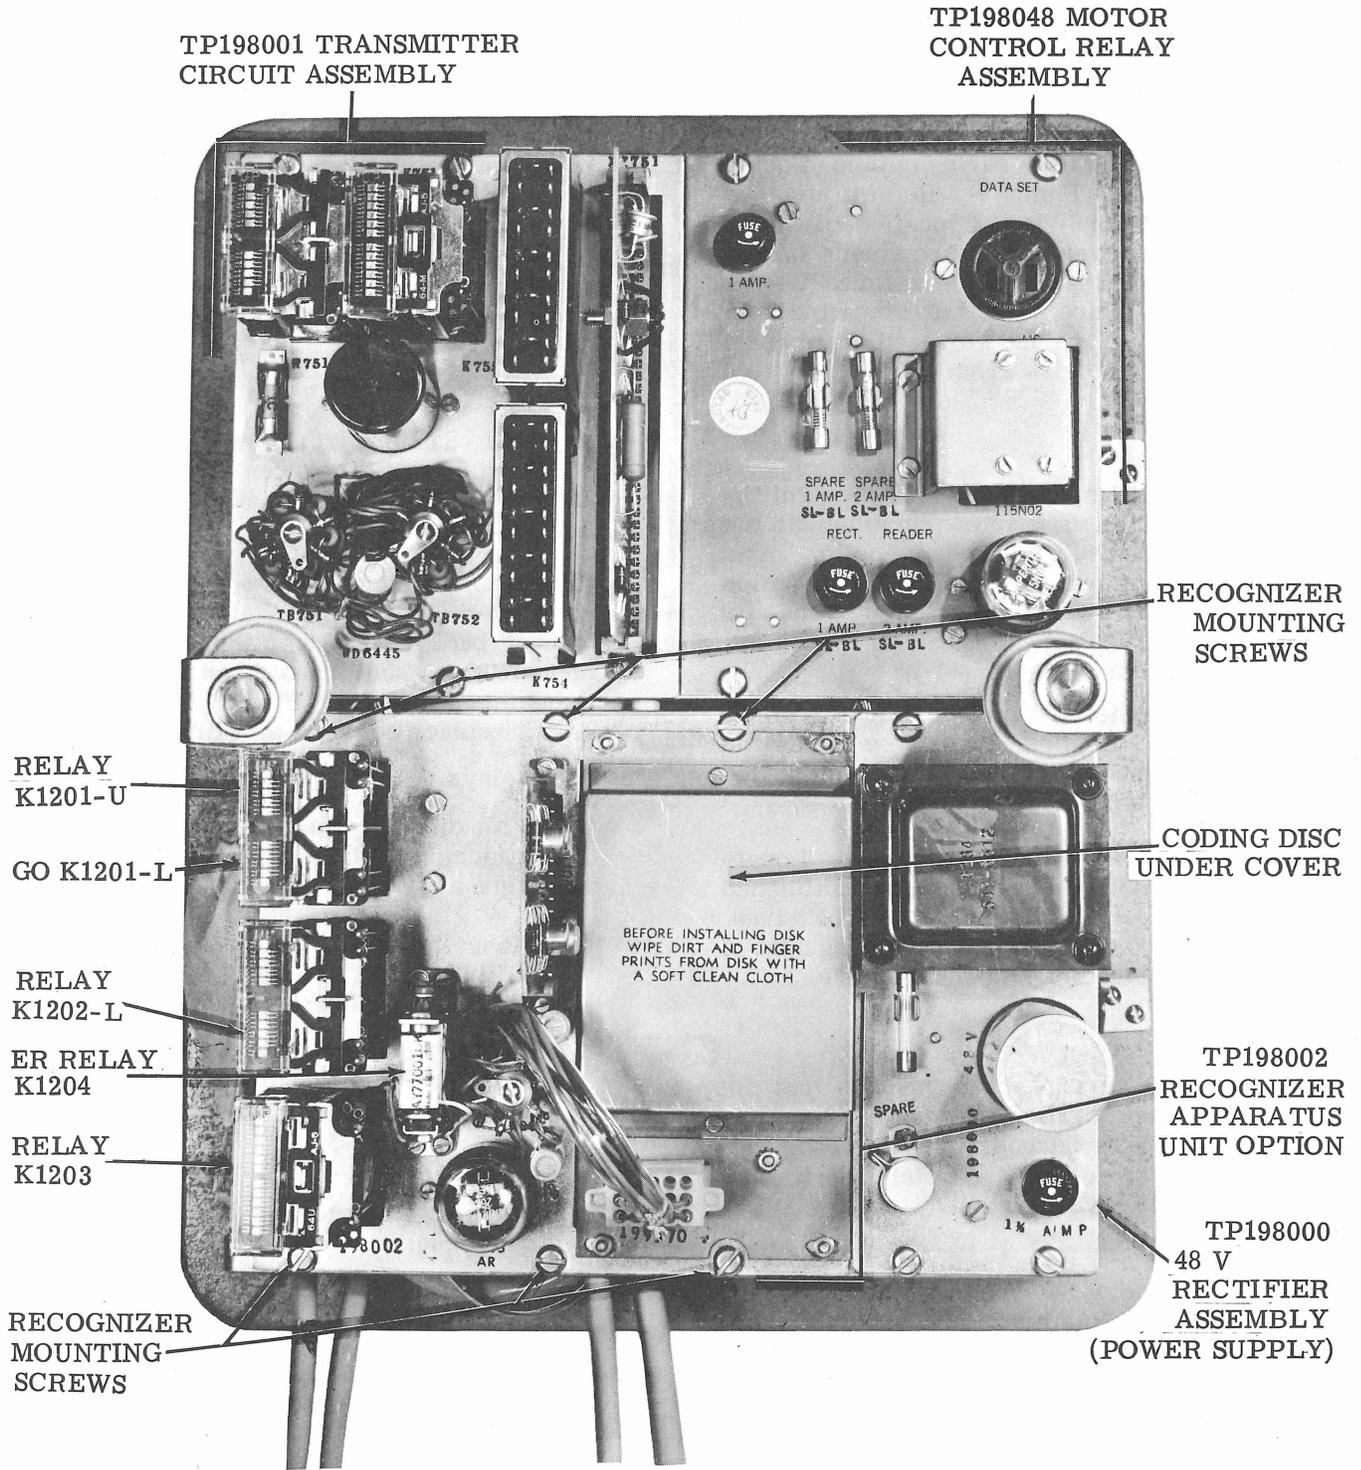

Figure 3 - Recognizer Apparatus Unit Option Mounted on Apparatus Box of Sender 5A - Mounting Side
2.05 The recognizer is mounted in the apparatus box of the table-mounted Tape Sender 5A (Figure 3) or on the apparatus frames of the floor-mounted Sender 5C (Figure 5).
3.02 In the case of Sender 5A, mount the recognizer on the apparatus box using the six attached TP165102 screws as shown in Figure 3. In the case of Sender 5C, mount the recognizer on the apparatus frame using the six attached TP154335 screws and TP80720 washers as shown in Figure 5.
3.13 To remove the Z wiring option: Locate relay K1203 (Figure 4). Refer to attached wiring diagram 7099WD for location of wires. Remove the two wires from wire spring 12M of K1203. Twist together, tape, and store. Locate relay K1201-L (Figure 3). Remove the wire from wire spring 3B. Tape and store. Locate relay K1201-U. Remove wire from wire spring 8M and tape and store.
(a) With disc not rotating, ER relay K1204 (Figure 3) should be released (lower armature away from pole face).
3.24 Remove cover from coding disc by removing two mounting screws (Figure 3). Remove the coding disc by removing its wing nut.